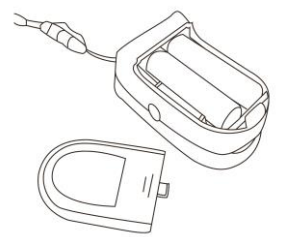

Figure 3. Battery Installation
Step 1. Refer to Figure 3. and insert the 2 AAA batteries.